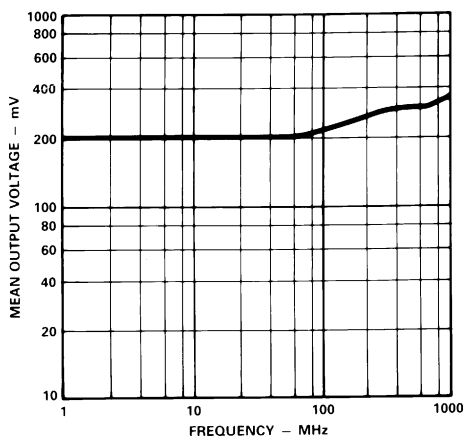

Figure 1. Mean-Square Output vs. Frequency
**Figure 1.** Figure 1 is a plot of the mean-square output versus frequency for the test circuit of Figure 5. Note that the rising response is due to package resonances.
directly to the same point on the ground plane via the shortest possible leads. Parallel combinations of large and small capacitors are used to minimize the impedance over the full frequency range. (Refer to Figure 1 for mean-square response for the AD834 in cerdip package, using the configuration of Figure 5.)